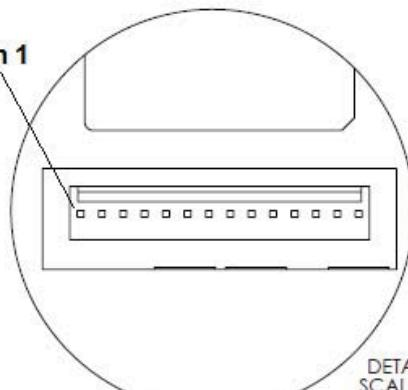

Figure 35
**Note:** If no thermostat controller is used, the wiring harness is connected at the back of the thermostat as shown in Figure 35.